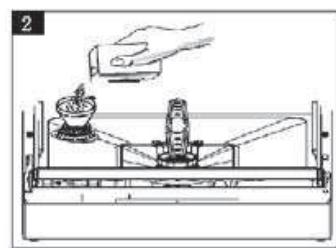

Fig. 2
5. Pour the regenerative salt slowly into the container (capacity about 1 kg). The salt will wash excess water out (Figure 2).